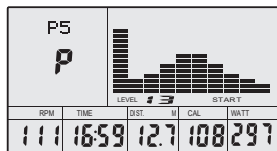

fig 29
F. Press START/ STOP to begin exercise.(See fig 29)